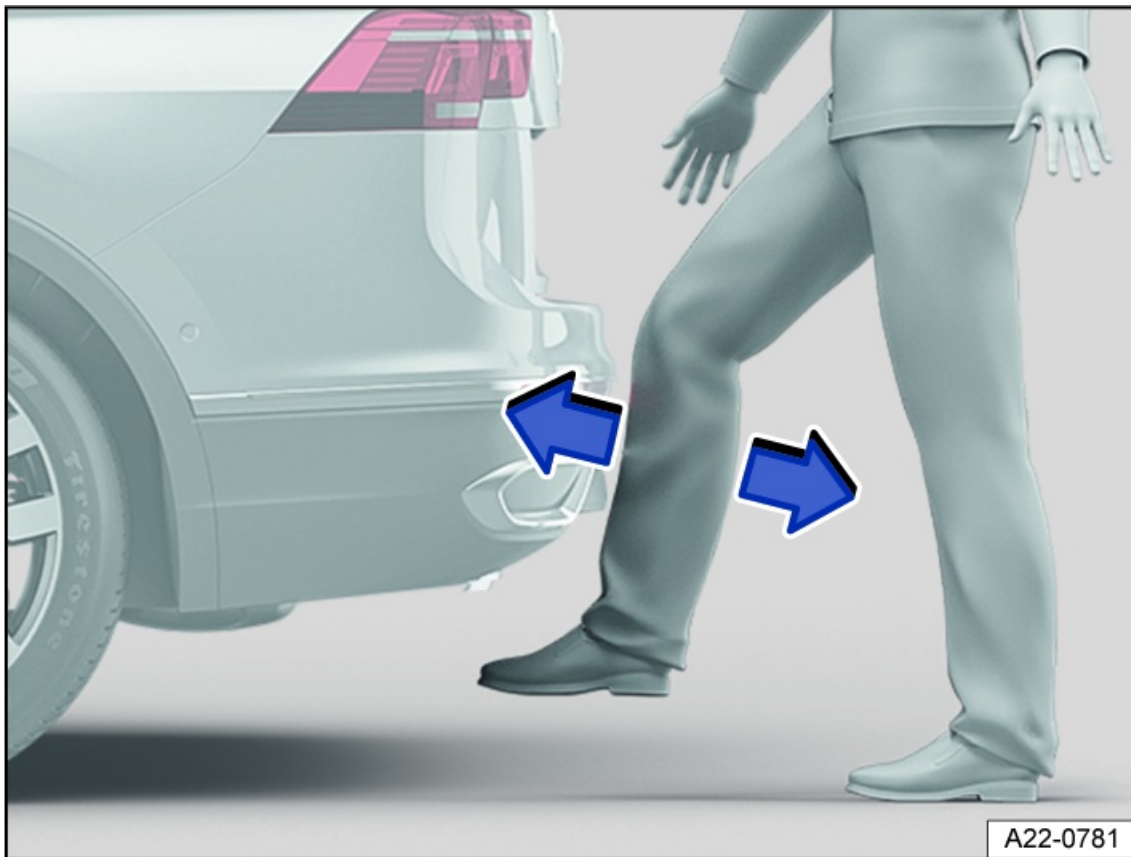

Fig. 52 General example of the sensor-controlled luggage compartment opener (Easy Open).
2. Quickly swing the lower part of your leg close to the bumper *fig. 52*.